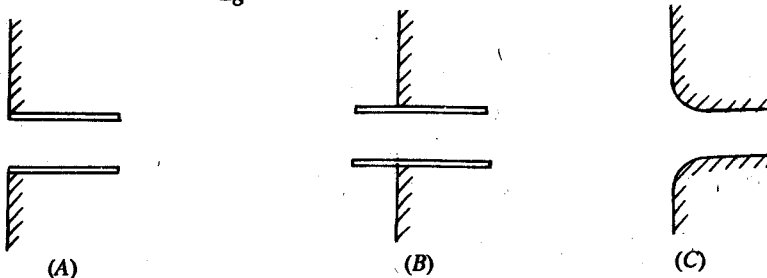

Fig. 14
- (A) 0.5
- (B) 1.0
- (C) 0.05
- (D) 0.28 to 0.45 (depending on D/p from 1.5 to 4.0)
- (E) 0.14 to 0.95 (depending on $\frac{D-d}{2L}$ from 0.05 to 0.4)
35. Fig. 14 shows three entrance conditions of pipe into a large reservoir. The head loss at the entrance to a pipe can be expressed as $K_e \frac{V^2}{2g}$, where K_e = coefficient of loss of head at entrance.